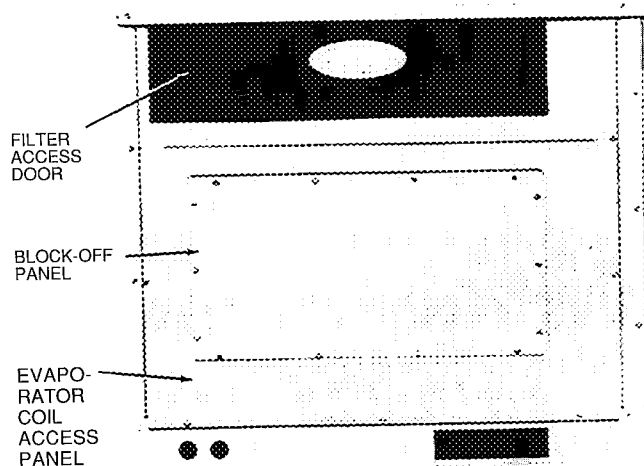

Fig. 15 - Access Panel Location
2. Remove evaporator coil access panel (see Fig. 15). Save panel and screws.
4. The block-off panel should be removed from the evaporator coil access panel and discarded. Save screws. See Fig. 15.